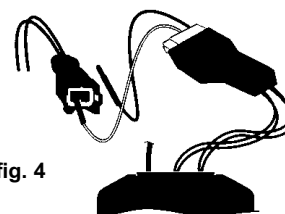

fig. 4
5. Connect Fuel Injector/Wiring Harness Interface Cable to injector harness being tested using the adaptor (fig.4). For all harness adaptors, either wire may be connected to either terminal of the harness. The tester is designed in such a way that hook-up orientation does not matter.